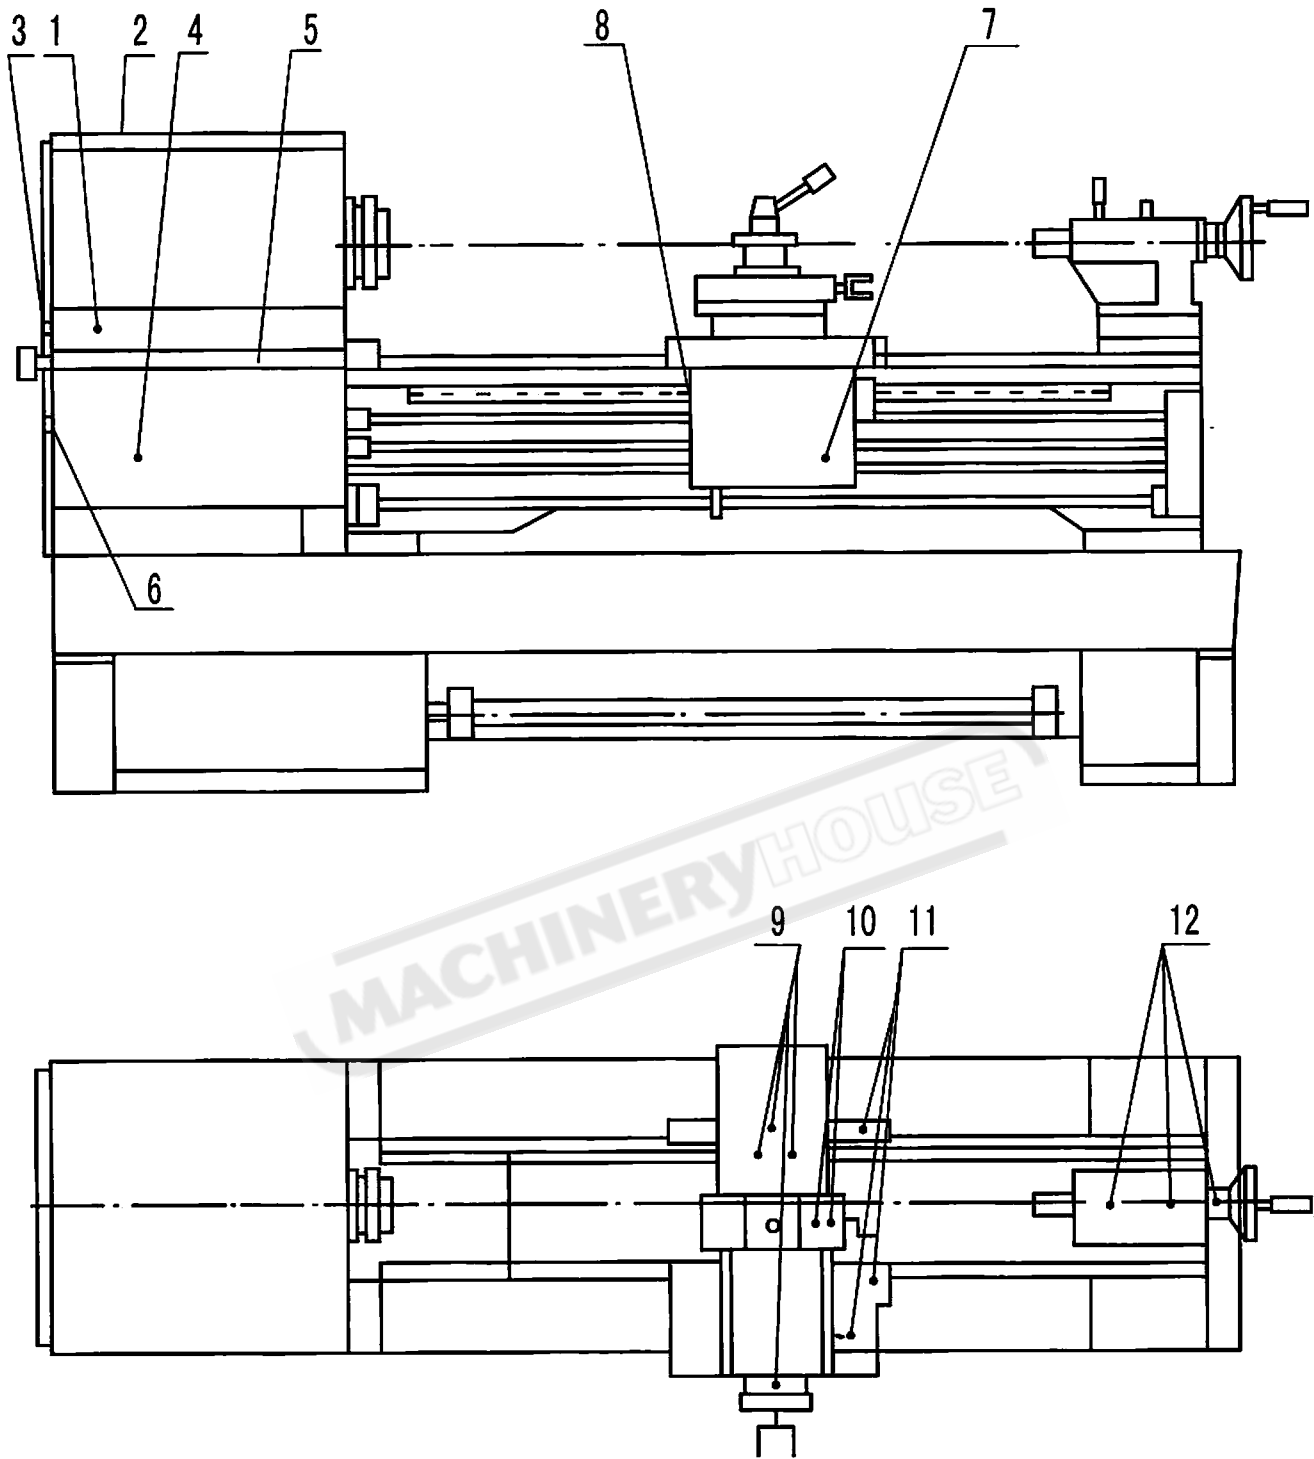

Fig.2
1. **Headstock**—Headstock is lubricated by means of pump and oil bath, oil must be up to indicator mark in oil sight glass (1, Fig. 2). Top off with machine oil NO. 30 or equivalent. Fill by opening the cover (2, Fig. 2). To drain, open the change gear cover door and remove the hex nut (3, Fig. 2). Drain oil completely, wash the headstock with kerosene, refill after the first 10 days of operation, then change oil in the headstock every 50 days.
3. **Gear box**—oil must be up to indicator mark in oil sight glass (4, Fig. 2). Top off with machine NO. 30 or equivalent. Fill by removing the top cover (4, Fig. 2). To drain, open the change gear cover door and remove drain plug (6, Fig. 2). Drain oil completely and refill after the first 10 days of operation. Then change oil in the gearbox every 50 days.
4. **Apron**—oil must be up to indicator mark in oil sight glass (7, Fig. 2). Top off with machine oil NO. 30 or equivalent. Remove oil plug (8, Fig. 2). In left of apron to fill. To drain, remove drain plug on bottom of apron. Drain oil completely and refill after the first 10 days of operation. Then change oil in the apron every 50 days.
5. **Cross slide**—Lubricate four oil ports (9, Fig. 2). With machine oil NO. 30 once per shift.
6. **Compound rest**—Lubricate two oil ports (10, Fig. 2). With machine oil NO. 30 once per shift.
7. **Carriage**—Lubricate three oil ports (11, Fig. 2). With machine oil NO. 30 once per shift.
9. **Tailstock**—Lubricate three ports (12, Fig. 2) with machine oil NO. 30 once per shift.